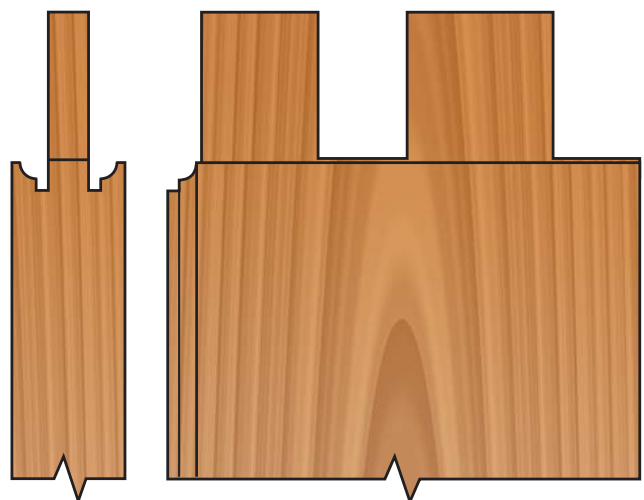

Figure 14
b) For wide tenons such as those in the bottom rails, divide the tenon into two parts as shown in Figure 14. Using a band saw, jig saw or coping saw, cut a 1-1/2” space between the tenons.